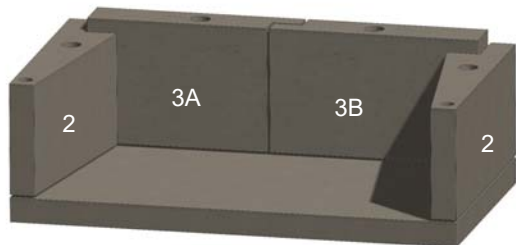

Figure 5. Lower Back Plates & Sidewalls
C. Install the sidewall pieces (2) and the lower and middle back plates (3A, 3B and 4A, 4B). Use 3/8" joint of mortar between each section. Smooth out mortar and ensure sections remain level. See Figures 5 and 6.